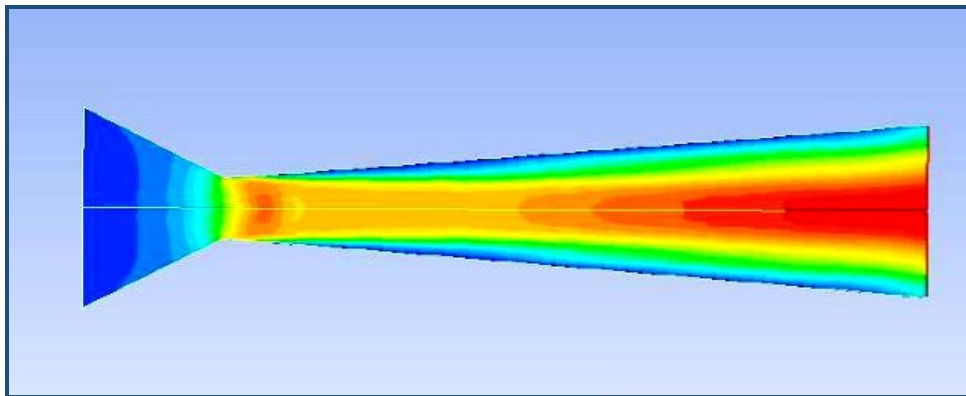

Figure 3.2: Flow through the convergent divergent duct
5. Analyze the results using the Ansys CFD post to get the flow contour as shown in Figure 3.2.